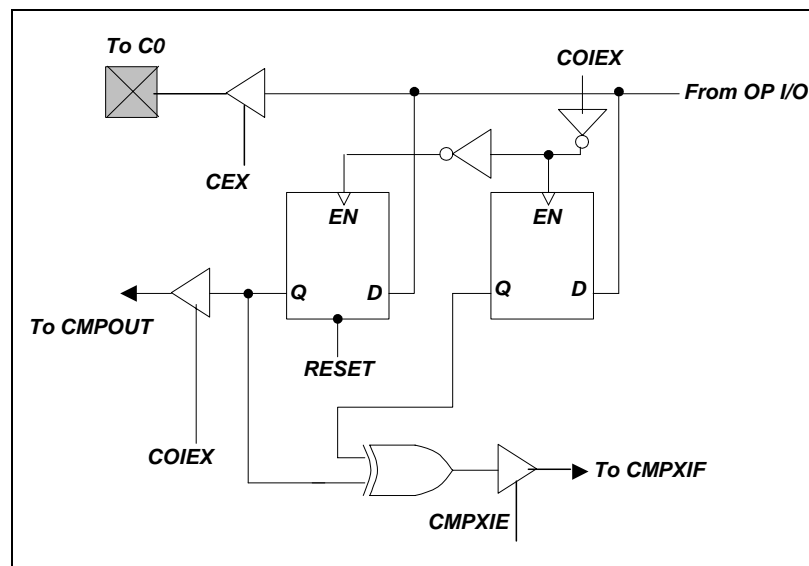

Fig. 5-15 Comparator Output Configuration
- Fig. 5-15 shows the comparator output block diagram.